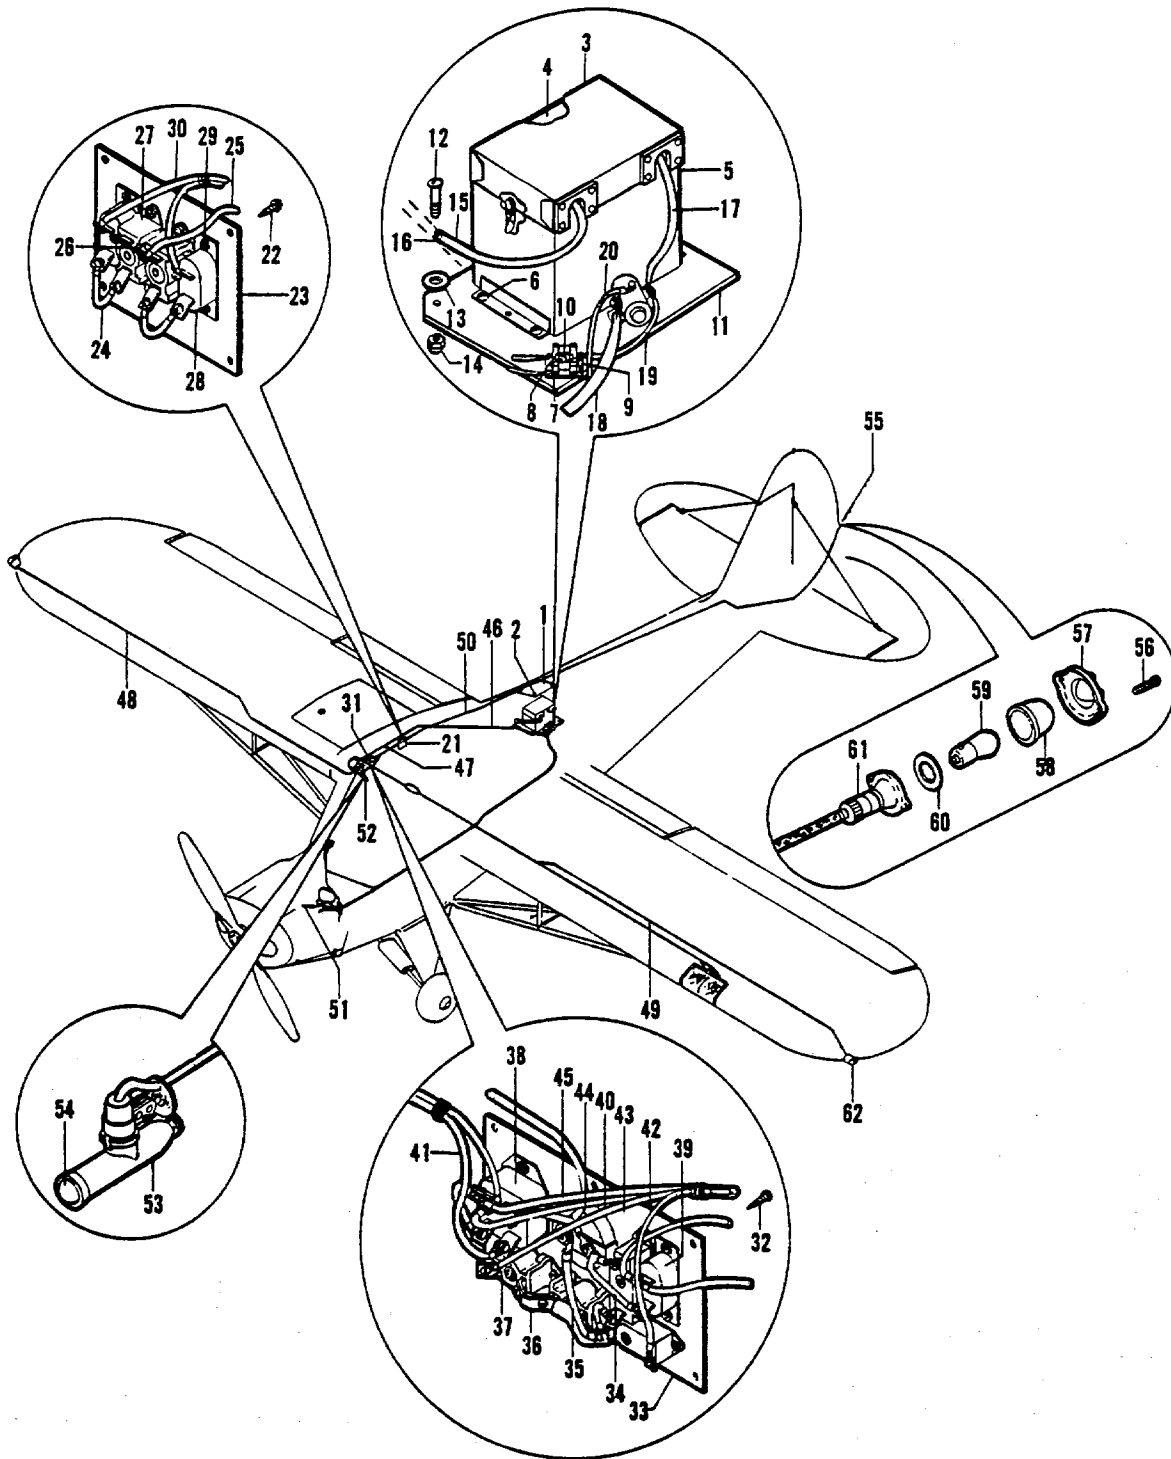

Figure 7-1. Electrical Systems Installation
**7-2. DESCRIPTION.** (See figure 7-1.) The electrical system is a 12 volt d-c system furnishing power for engine starting, navigation lights, landing lights and cockpit light. The system consists of a storage battery, generator, voltage regulator, switches, circuit breakers, ammeter, landing lights, navigation lights, cockpit light and interconnecting wiring (see paragraph 5-58 for information on the engine starter). Servicing instructions for these components will be furnished individually in the following paragraphs.
**7-8. SERVICING SWITCHES AND CIRCUIT BREAKERS.** (See figure 7-1.) Test all switches for continuity and replace inoperative switches with new ones. Ex-